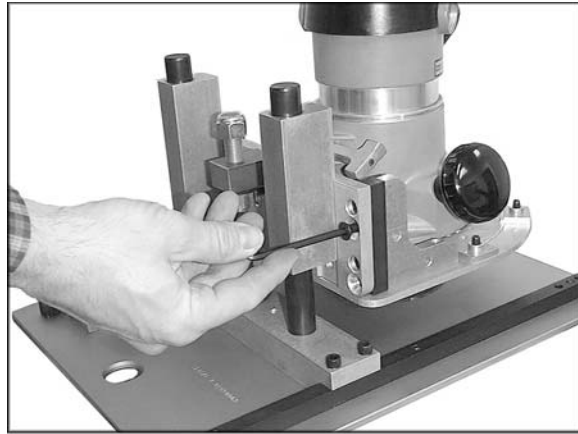

Figure 5
- Using the 1/4-20 x 1" flat head screws (removed in step 1), re-install the carriage to the Rout-R-Lift (Fig. 5). NOTE: Use the socket head cap screws as locating pins for easier installation of the carriage.